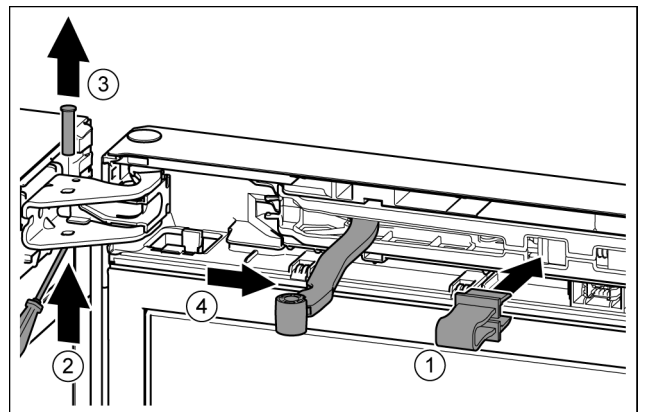

Fig. 11
- ▶ Engage the locking device in the opening. Fig. 11 (1)
- ▶ Unscrew the bolt with a screwdriver. Fig. 11 (2)
- ▶ Remove the bolt in an upward direction. Fig. 11 (3)
- ▶ Turn the hinge in the direction of the door. Fig. 11 (4)